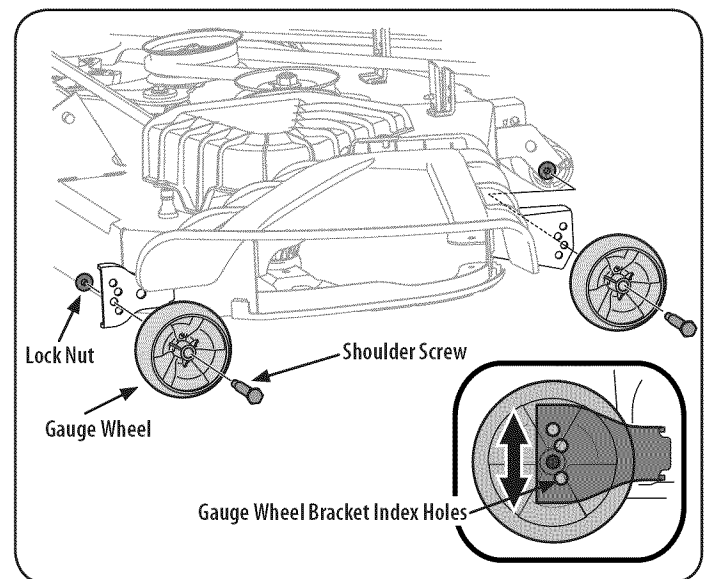

Figure 8
2. Remove the flange lock nut securing the gauge wheel shoulder bolt to the deck. Remove the gauge wheel and shoulder bolt. Refer to Figure 8.